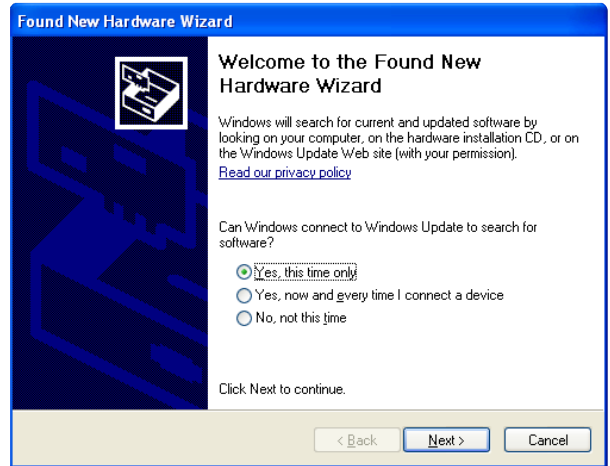
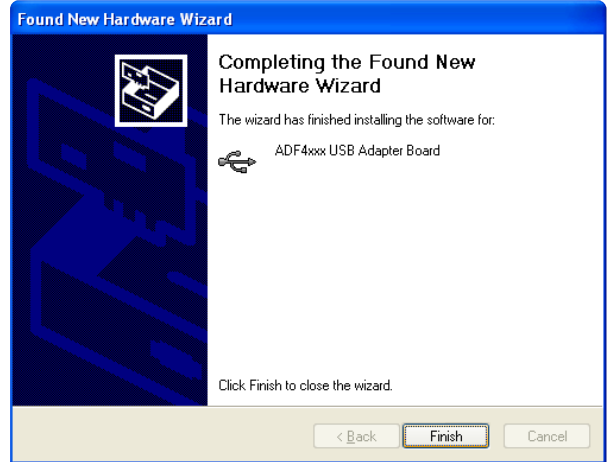

Figure 13. Windows XP USB Adapter Board Driver Installation, Found New Hardware Wizard
Figure 16. Windows XP USB Adapter Board Driver Installation, Complete Installation
3. Connect your SDP board (black) or USB adapter board (green) by USB. If you are using an SDP board, the drivers install automatically, and you are ready to run the software. If you are using a USB adapter board on Windows XP, follow the steps in the Windows XP Driver Installation Guide section (see Figure 13 to Figure 16). On Windows Vista or Windows 7, the drivers install automatically.